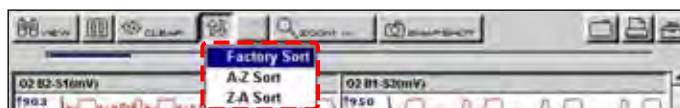

Figure 5-34 Sample sort drop-down menu
2. Highlight an option on the drop-down menu (Figure 5-34).